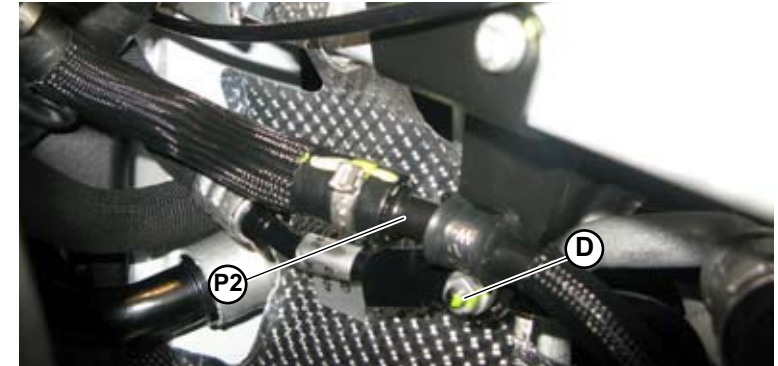

Fig.25
4. Loosen the screw (D-Fig.25) securing the rear part of the P2 return pipe to the support bracket.